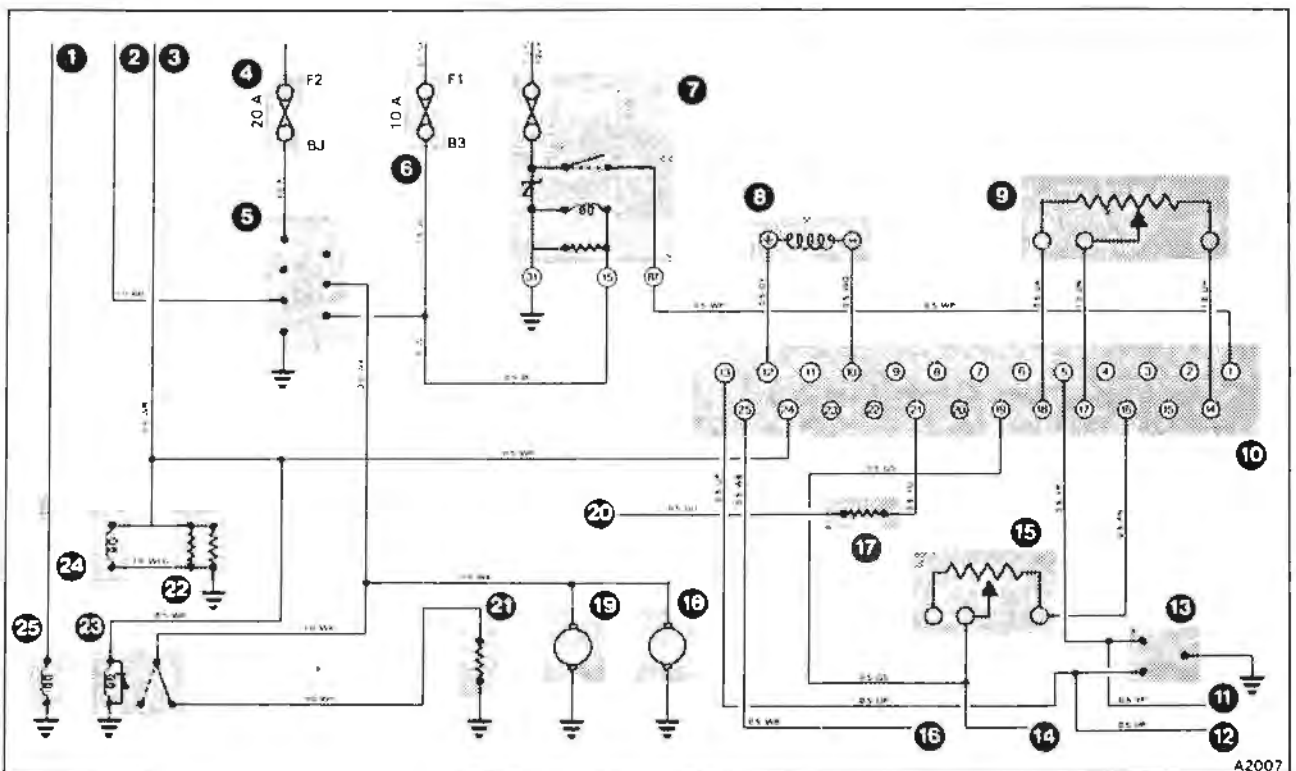

Fig. B3-19 Theoretical wiring diagram
**Electro-hydraulic actuator (EHA)** (see fig. B3-19)
The theoretical wiring diagram (see fig. B3-19) provides basic details of the electrical components within the fuel injection system.